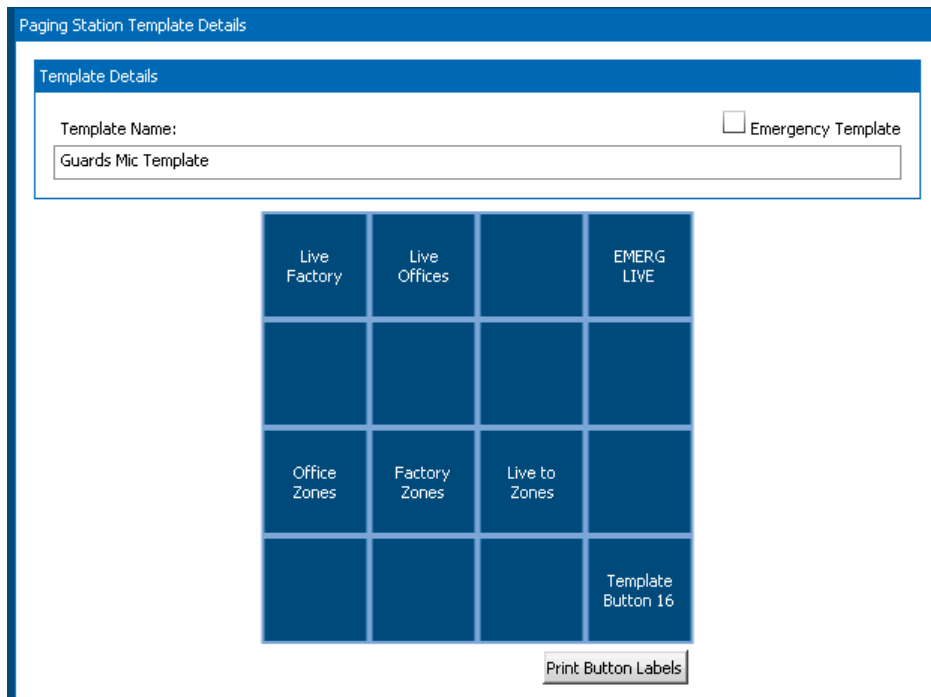

Figure 4-44: Example 5416CS Template Details
The 5416CS Template Setup page appears as in the example, in Figure 4-44. The basic properties of the template are explained in the text which follows. When a new template is created, unlike the example in the figure, all the buttons will have text of the form “Template Button X”, where X is 1 to 16.
To edit a button, one clicks on the button in the 4x4 grid. This highlights the button by changing the background to green as shown at right. When selected, an Action Button Details box appears as shown in Figure 4-45. Since not all properties/controls fit within the window, one must scroll this details box down to see all the properties/controls. The additional properties one must scroll to see are shown in the lower half of the figure. The properties/controls that appear in this area will vary depending on the type of action being defined, e.g., Play Message vs. Live Page. What is shown in Figure 4-44 are the Live Page properties/controllers.
- **Play Alarm** – Initiate an alarm. If this is selected, the Alarm selector control as shown below appears instead of the other controls shown in Figure 4-44. With this selector, one can select which defined Alarm to initiate.